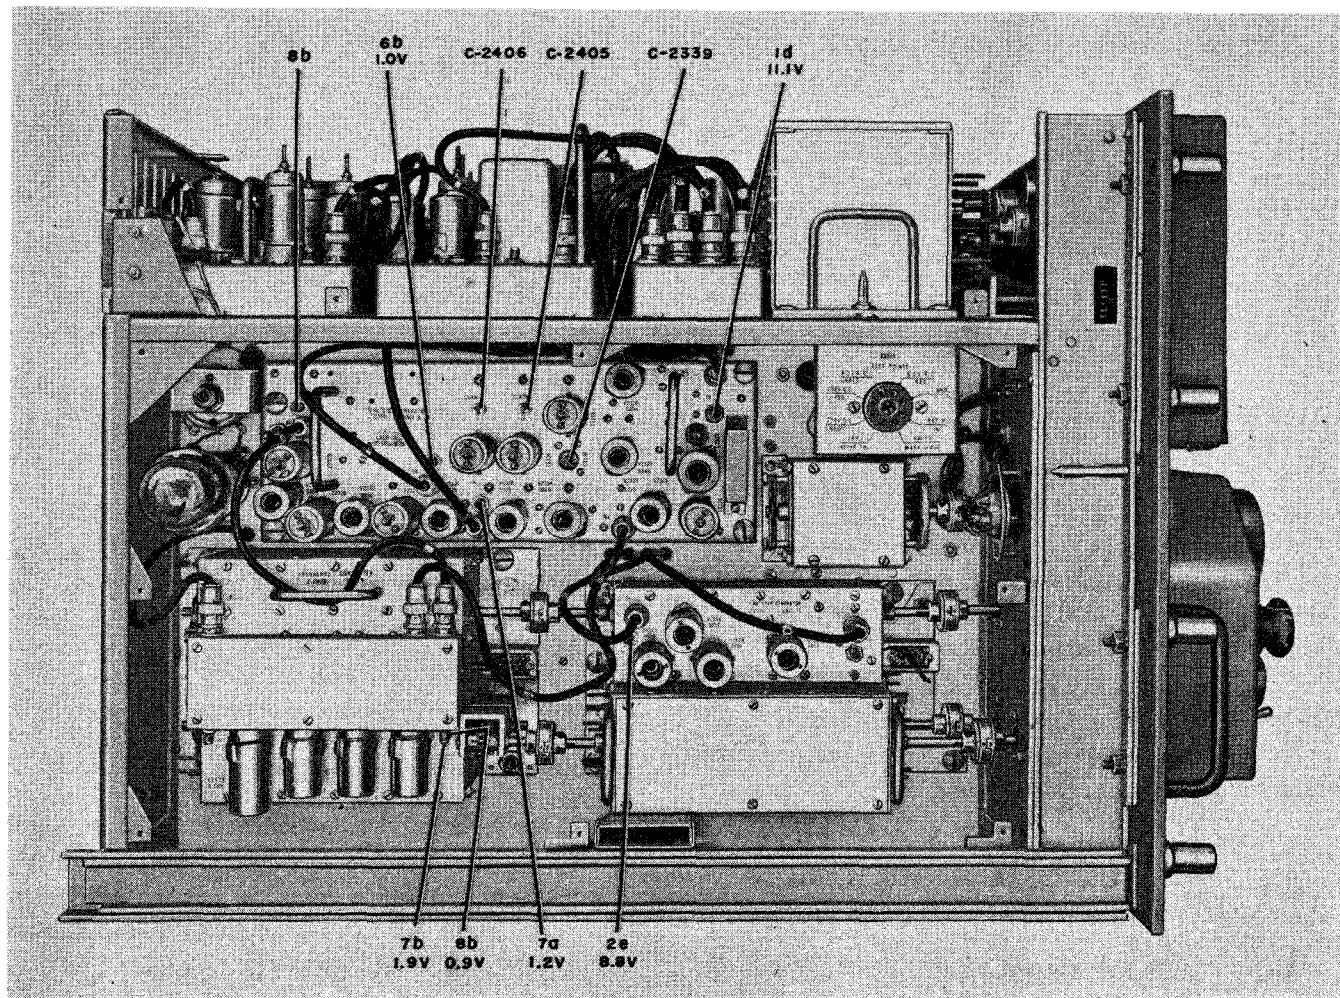

Figure 6-8. RFO, Left Side, Unit Test Jacks, Voltages
| RFO, Left Side (See figure 6-8.) | 8 | 1d | 11.10 | | | | |
Step 4. Adjust C-2339 (see figure 6-8 for location of C-2339), if necessary, to obtain a steady pattern as follows:
Step 2. Connect Multimeter ME-25A/U to test point 8b on unit 8. (See figure 6-8 for location of test point 8b. Use test jack marked 8b on unit 8, not the one on unit 9.)
Step 3. Adjust C-2405 and C-2406 for a maximum reading on the meter. (See figure 6-8 for location of C-2405 and C-2406.)